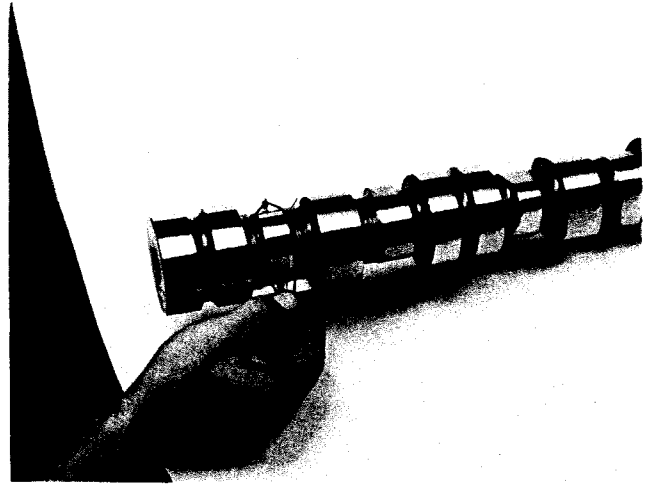

Fig. 14-17, (N114254). Installing camshaft pilot sleeve
3. Lubricate cam lobes with high pressure lubricant. Install camshaft, rotating slowly. Do not damage lobes or bushings. Use 3375268 Sleeve with 2-1/2 inch cam. Fig. 14-17.